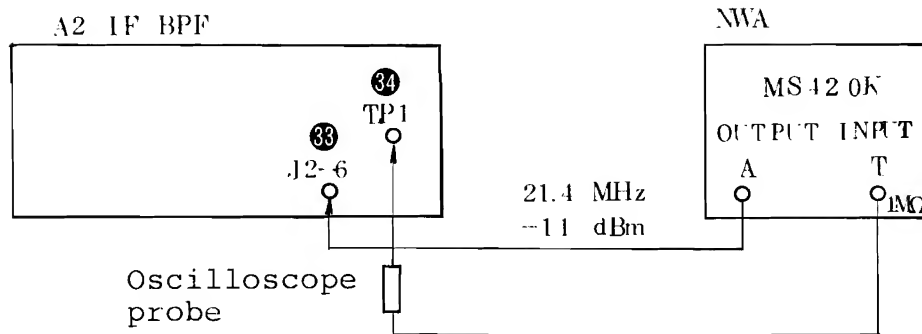

Fig. 3-27 21.4 MHz BPF Adjustment Setup
2	Solder the extender cable directly to J2-6 ③ as shown in Fig. 3-27.